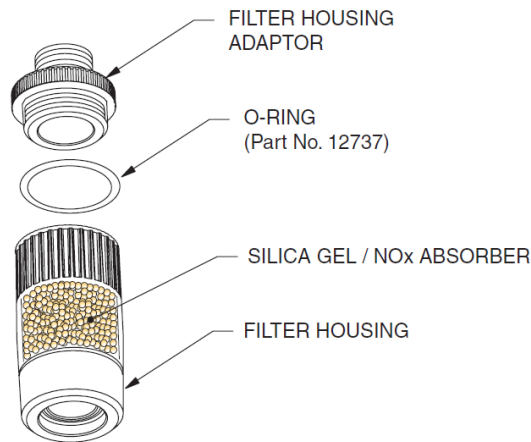

Figure 46: Filter Housing Adaptor Removal
4. If the content of the chemical filter is to be replaced, hold the filter assembly in the upright position, as shown in Figure 46: Filter Housing Adaptor Removal.